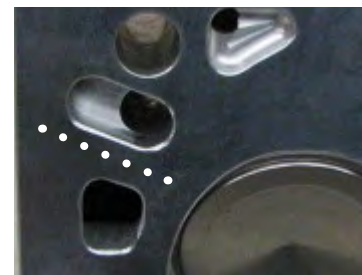

Figure 1 - Silicone Strip
- **Head Gaskets:** Edelbrock head gaskets #7313 are recommended for use with E-Street heads. Edelbrock Cylinder Head Gasket Set #7364 may also be used. This gasket set includes all gaskets necessary for installation of Edelbrock cylinder heads, including cylinder head, intake manifold, exhaust and valve cover gaskets. **NOTE:** Certain Ford SVO Performance blocks include additional blind cooling provisions on the exhaust side of the deck surface. These holes may line up with a tooling point on the deck surface of the cylinder head (identifiable as a rough low spot), which could prevent the head gasket from sealing properly. Using the gasket as a template, verify that the head will compress the gasket above any such hole before drilling. Use a small set-screw to block this passage if necessary, on blocks in which the hole has already been drilled. **NOTE:** If using Fel-Pro Print-O-Seal, or any silicone beaded gasket, you must apply a small strip of silicone to both the deck flange of the cylinder head, as shown in **Figure 1** on the next page, and the at same location on the surface of the block to prevent coolant from contaminating the oil.